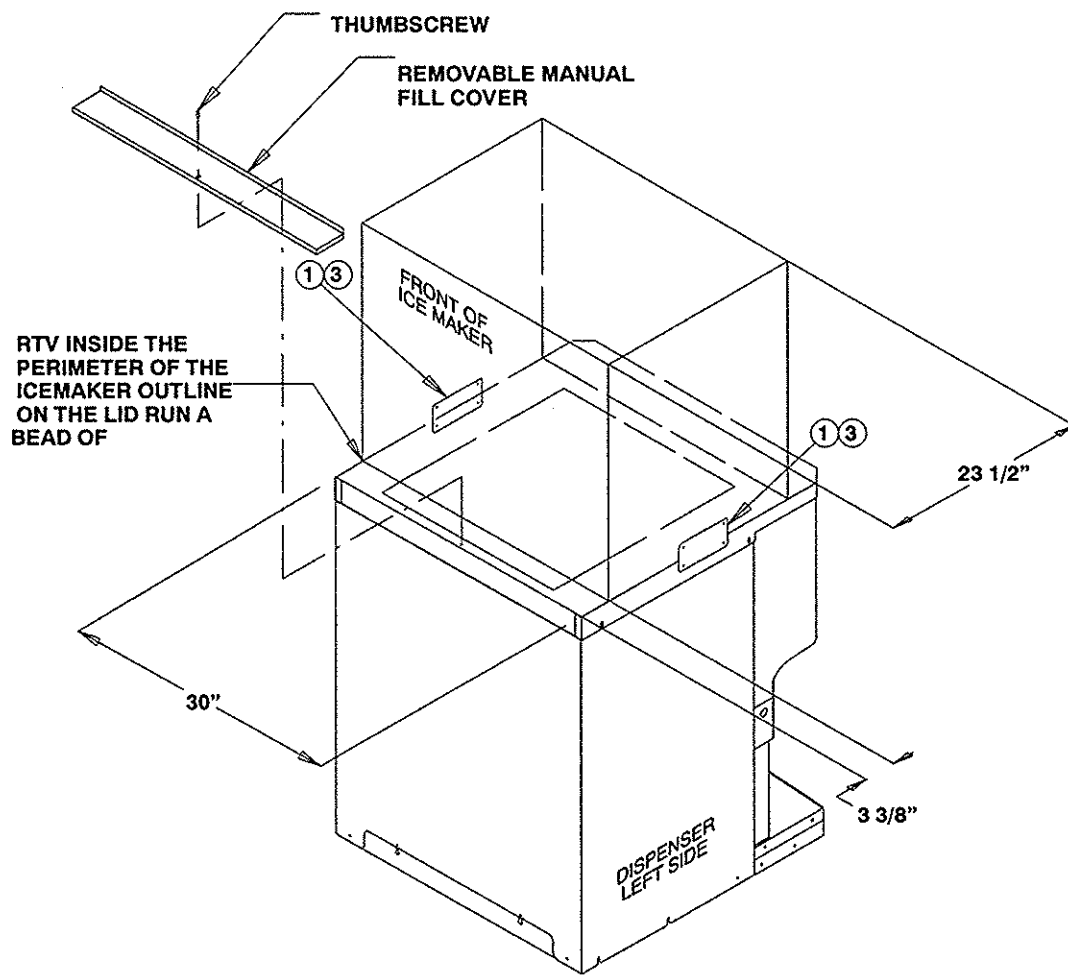

FIGURE 1. DISPENSER REAR VIEW
1. Seal the icemaker to the top of the dispenser as follows (see Figure 1).
- A. Locate the outline of the icemaker on the dispenser lid as shown in Figure 1.
- C. Set the icemaker onto the lid and position it as shown in Figure 1.